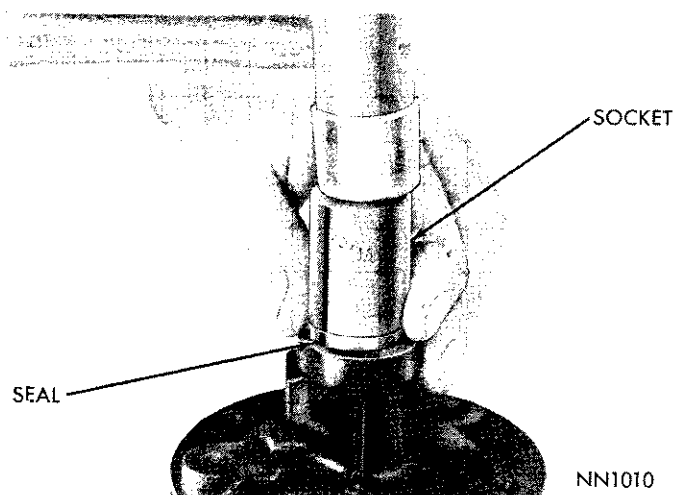

Fig. 10—Oil Seal Installation
(1) Place pump body on flat surface and drive new drive shaft seal into bore with a 7/8 or 15/16 inch socket till seal bottoms on shoulder (Fig. 10).